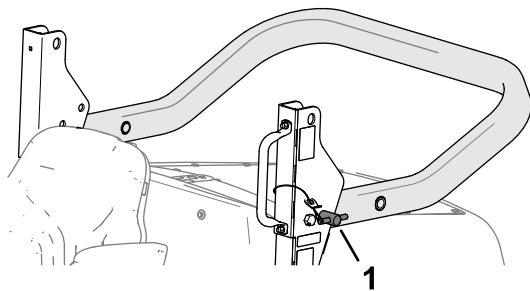

Figure 31
2. Remove the roll-bar pins from the pivot brackets (Figure 31).